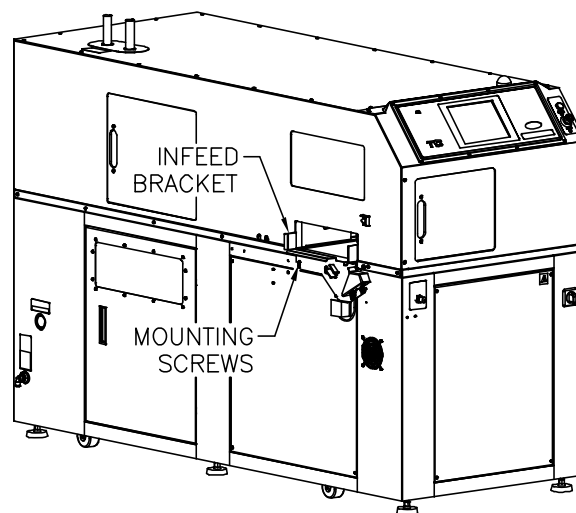

Figure 2-10. Infeed Bracket
- On the trimmer, adjust the height of the infeed bracket (Figure 2-10) if necessary. The flat, horizontal surface of the bracket should be 1/32" (1mm) below the trimmer's infeed conveyor belt.